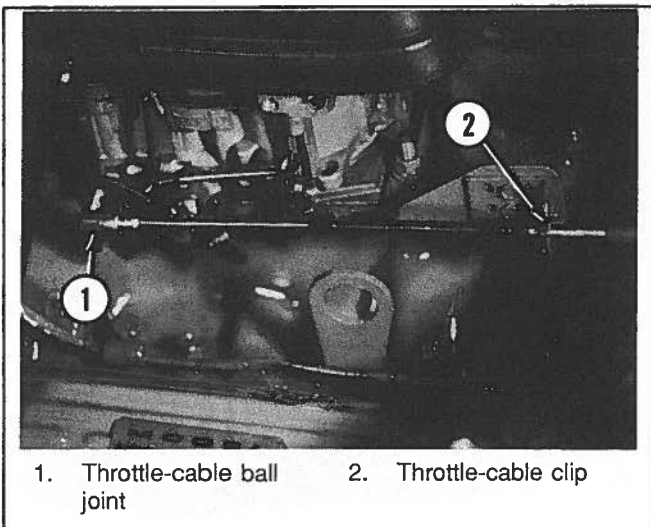

Figure 7-14. Removing Throttle Cable
6. Disconnect throttle cable (Figure 7-14).